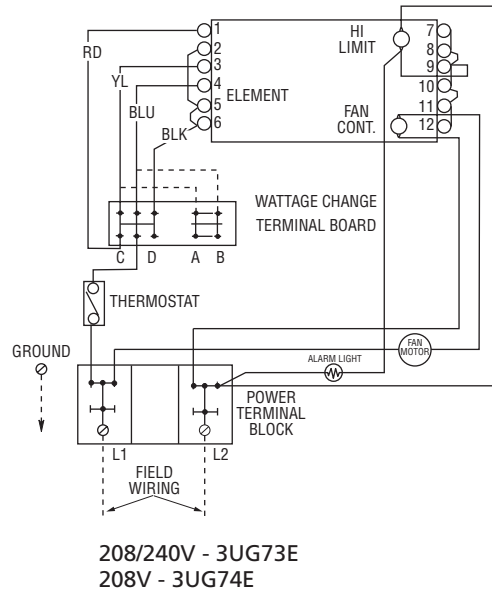

Figure 9 – Wiring Diagram
**NOTE:** To decrease the heat output of the heating unit, see Table 1 and Figure 9.
Increase or decrease heat output by switching wires at the wattage change terminal board. The heaters are factory wired to deliver a heat output of 17,065 BTU per hour. Should your particular application require less heat output, refer to Table 1 and change the wires at the wattage change terminal board as shown in Wiring Diagram (see Figure 9).